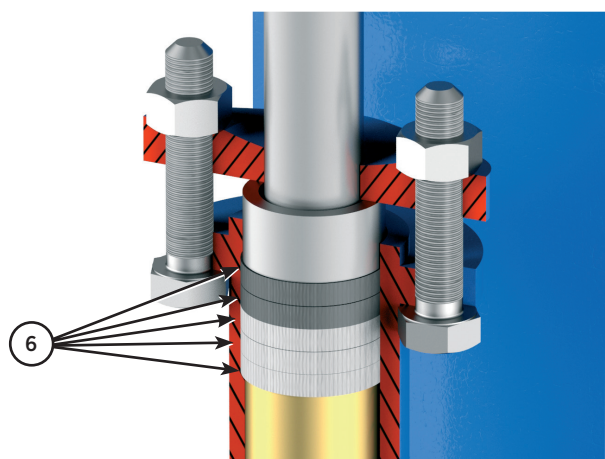

Fig. 21
Standard packing (6) in **CMO Valves** comprises several lines or layers of packing material to ensure watertight integrity between the shafts and the body, preventing any leakage to the atmosphere by sealing and compressing the packing with bushings and bolted flanges, as shown in fig 21.